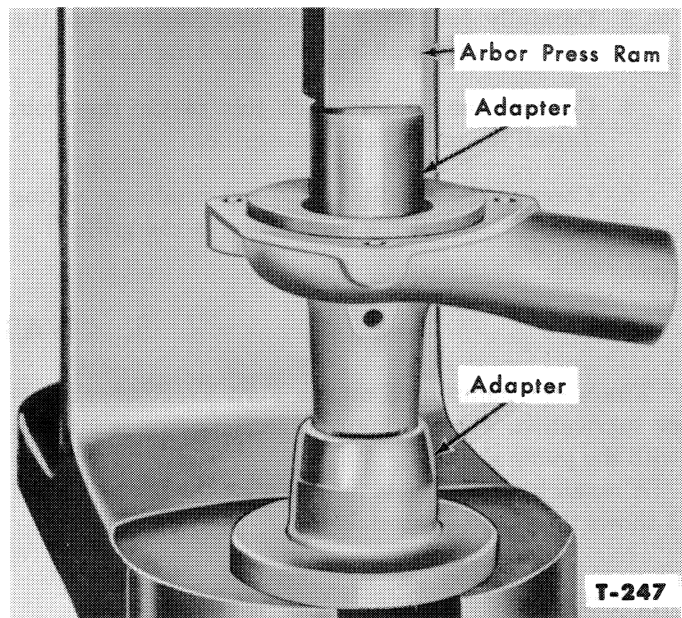

Figure 6—Installing Seal in Housing
2. Press the seal into the housing as shown in Figure 6, using a suitable adapter to press against the shoulder of the seal.